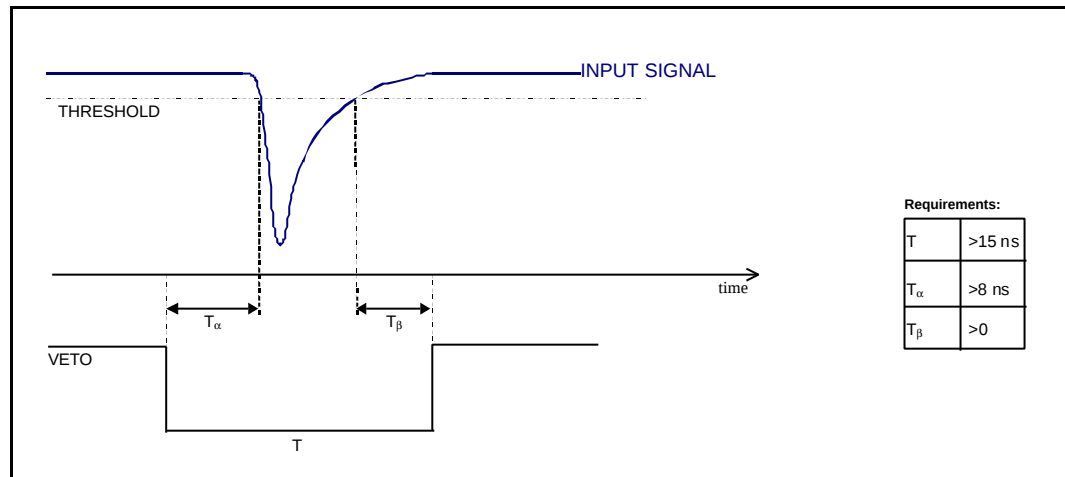

Fig. 2.1: Veto signal
VETO: standard NIM logic signal, high impedance, 15 ns minimum FWHM. Leading edge of the VETO signal must precede of at least 8 ns the leading edge of the input and overlap completely the input signal (ref. Fig. 2.1).
- **VETO:** (Ref. Fig.2.1) an input signal sent through this connector allows to inhibit all channels simultaneously. Its leading edge must precede the input leading edge by at least 8 ns and overlap completely the input signal.